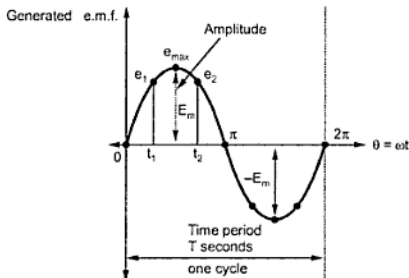

Fig. 4.7 Waveform of an alternating e.m.f.
e.g. e_1 and e_2 are the instantaneous values of an alternating e.m.f. at the instants t_1 and t_2 respectively shown in the Fig. 4.7.
A cycle can also be defined as that interval of time during which a complete set of non-repeating events or waveform variations occur (containing positive as well as negative loops). One such cycle of the alternating quantity is shown in the Fig. 4.7.
The time taken by an alternating quantity to complete its one cycle is known as its **time period** denoted by T seconds. After every T seconds, the cycle of an alternating quantity repeats. This is shown in the Fig. 4.7.